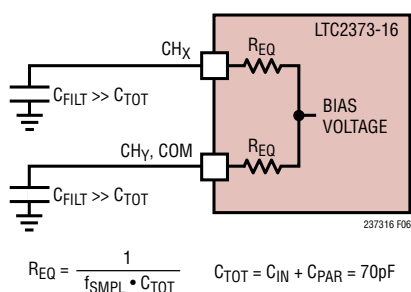

Figure 6. Equivalent Circuit for the MUX Analog Inputs of the LTC2373-16 at 1Msps
**Fully Averaged:** Consider the case where MUXOUT+/- is directly wired to ADCIN+/-. If the coupling filter's capacitors ( $C_{FILT}$ ) at the MUX analog inputs are much larger than the sum of the ADC's sample capacitors (50pF) and the MUX's output summing node capacitances (20pF), then the sampling glitch is greatly attenuated. The driving amplifier effectively only sees the average sampling current, which is quite small. At 1Msps, the equivalent input resistance is approximately 14k (as shown in Figure 6), a benign resistive load for most precision amplifiers. However, resistive voltage division will occur between the coupling filter's DC resistance and MUX's equivalent (switched-capacitor) input resistance, thus producing a gain error.